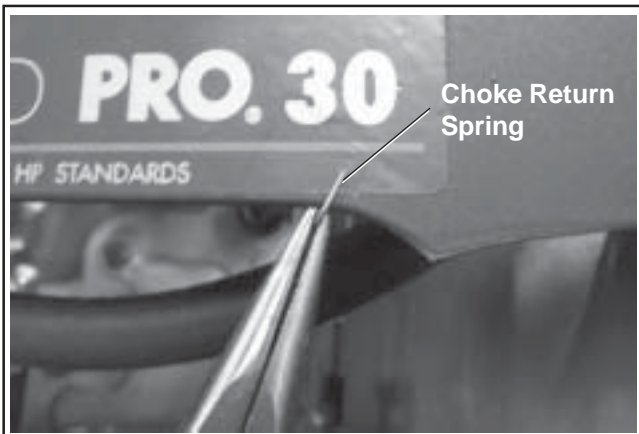

Figure 11-90. Attaching Choke Return Spring (Two-Barrel Carburetors).
6. **Two-Barrel Carburetor Models Only:** Attach the choke return spring to the bottom of the main control bracket. See Figure 11-90.